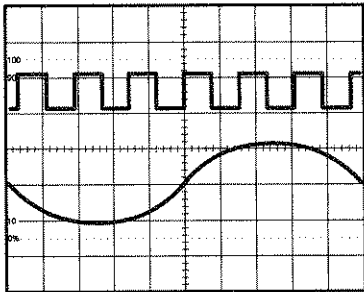
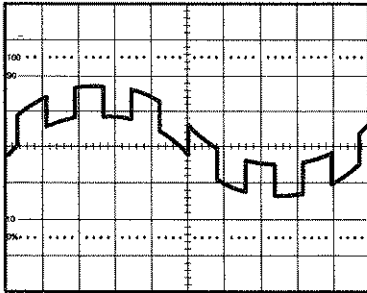

Figure 6: Typical BOTH Waveform
Figure 7: Typical ADD Waveform
1. Set the **VERTICAL MODE** control to the **BOTH** position. Figure 6 shows two signals in the **BOTH** mode.
Figure 7 shows the sum of the waveforms from Figure 6.